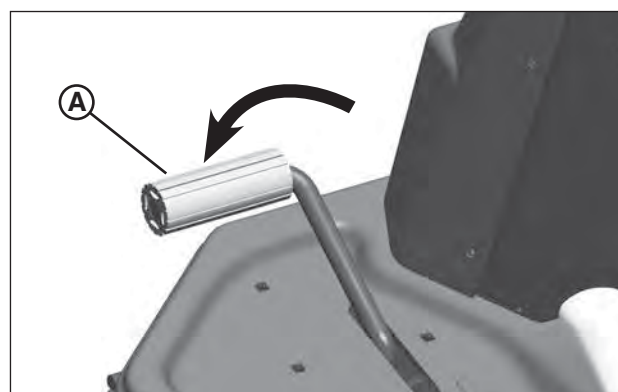
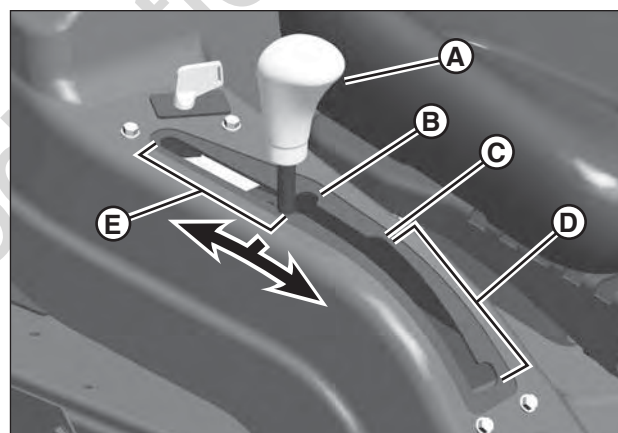

Figure 9: Clutch/brake pedal
Figure 10: Transmission shift lever (manual drive models)
- Depress the clutch/brake pedal (A, Figure 9).
- Move the transmission shift lever (A, Figure 10) from the Neutral ('N') position (B) into the first forward speed notch (C).
- During forward motion, the transmission shift lever may be placed in any desired forward speed (D) without depressing the clutch/brake pedal.
- Move the transmission shift lever (A, Figure 10) from the Neutral ('N') position (B) into the reverse speed slot (E).